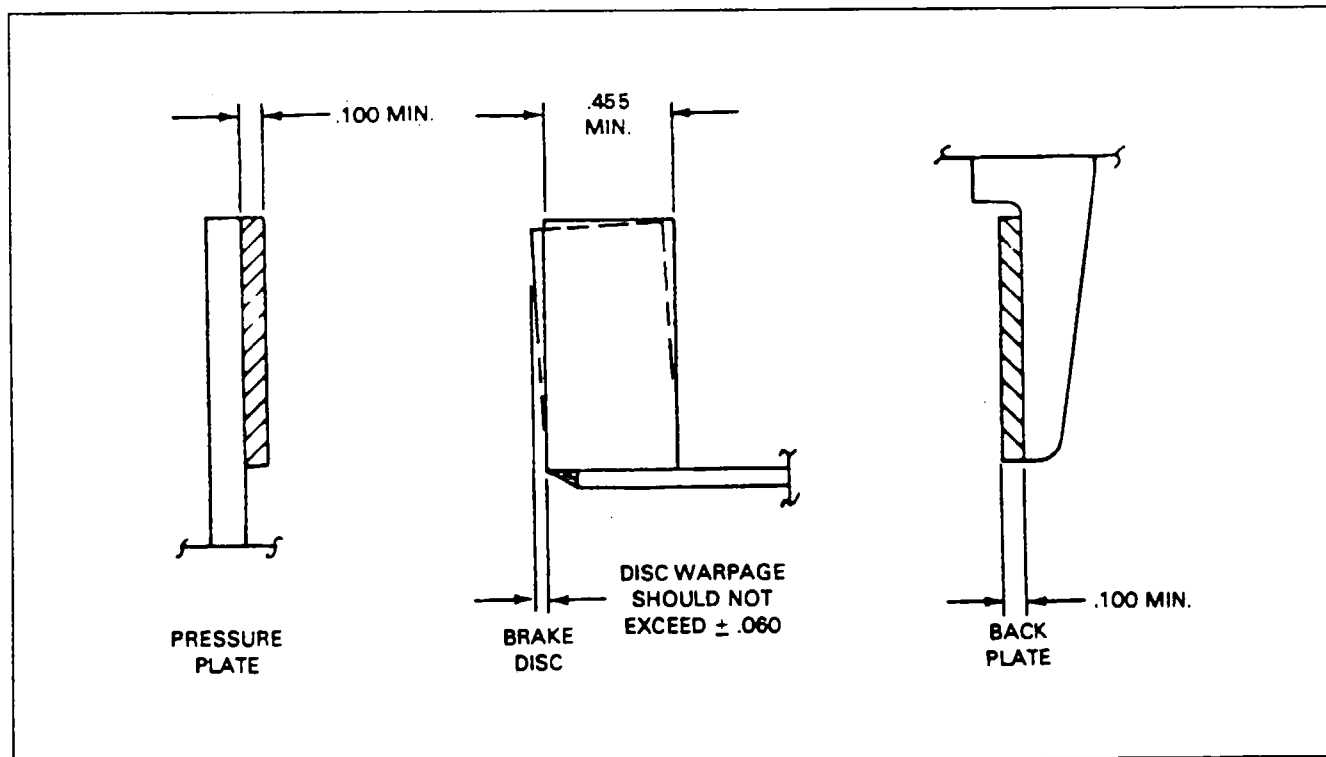

Figure 32-16. Maximum Brake Wear Limits
6. Inspect the brake disc for cracks, corrosion, excessive wear, scoring, or warpage. Remove rust by hand wire brushing and finishing with a medium grit sandpaper or emery. For brake disc wear limits, refer to Figure 32-16.